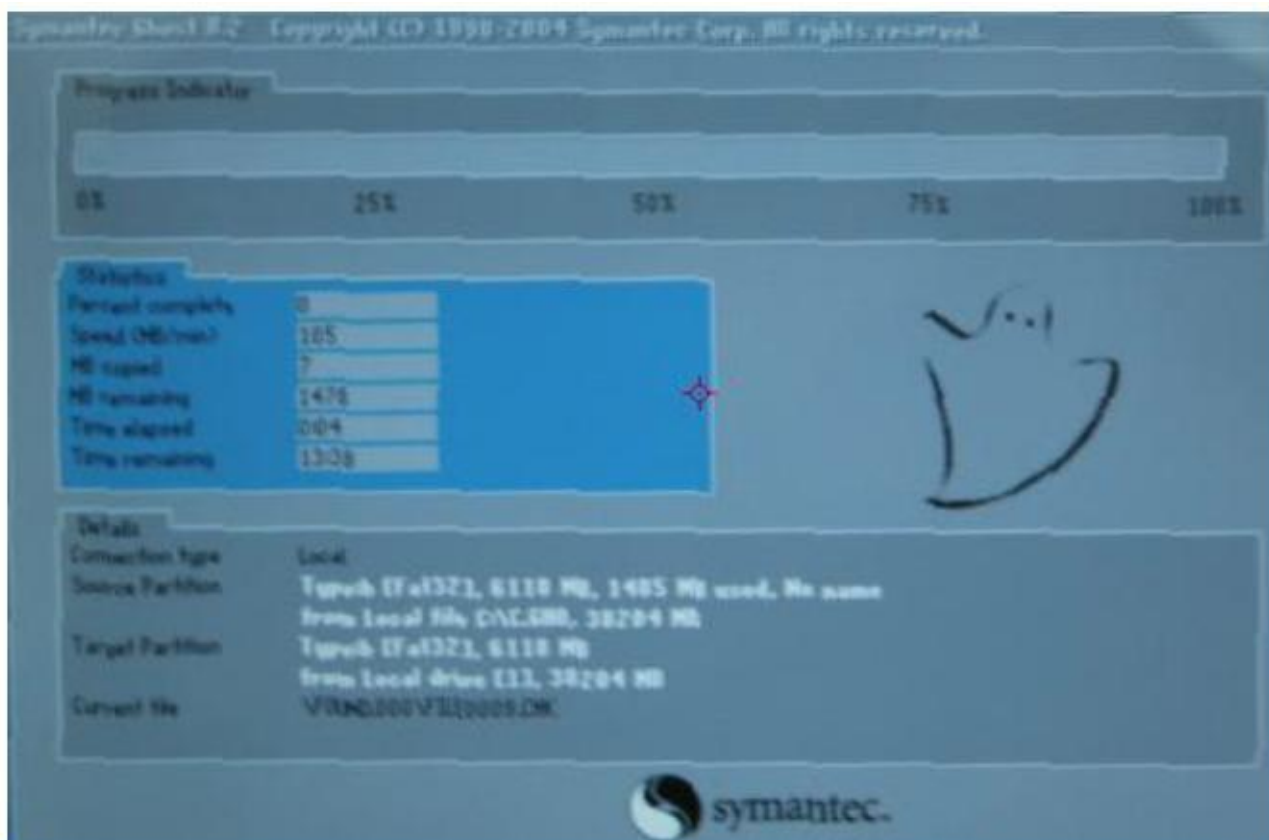

Fig. 3.10 System Recovery Screen
- 3) If the screen shown in Fig. 3.10 appears, system recovery is started. About 10min is required in the whole process of system recovery. Restart the analyzer after recovery.